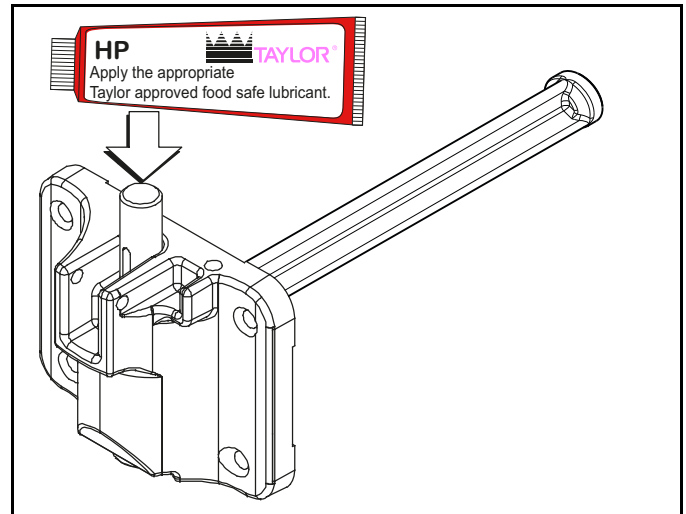

Figure 6-11
5. Insert the draw valve from the top, with the draw handle slot facing forward. (See Figure 6-11.)